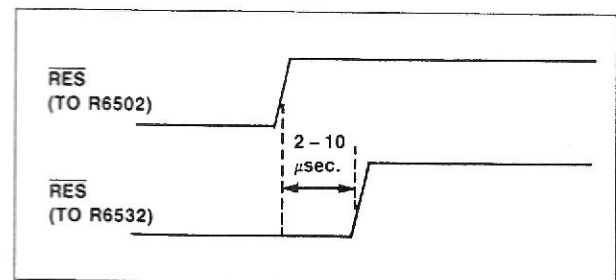

Figure 1. Delayed Reset to R6532
2. Use separate \overline{RES} signals for the R6502 and the R6532. In order to avoid the first two cycles of the start-up (wherein the addresses are unpredictable), it is necessary to hold the \overline{RES} to the R6532 low *after* the \overline{RES} to the R6502 goes high. This is illustrated in Figure 1.